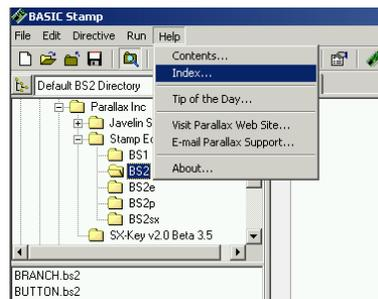

Figure 1-45
- √ In the BASIC Stamp Editor, Click *Help*, then select *Index* as shown in Figure 1-45.